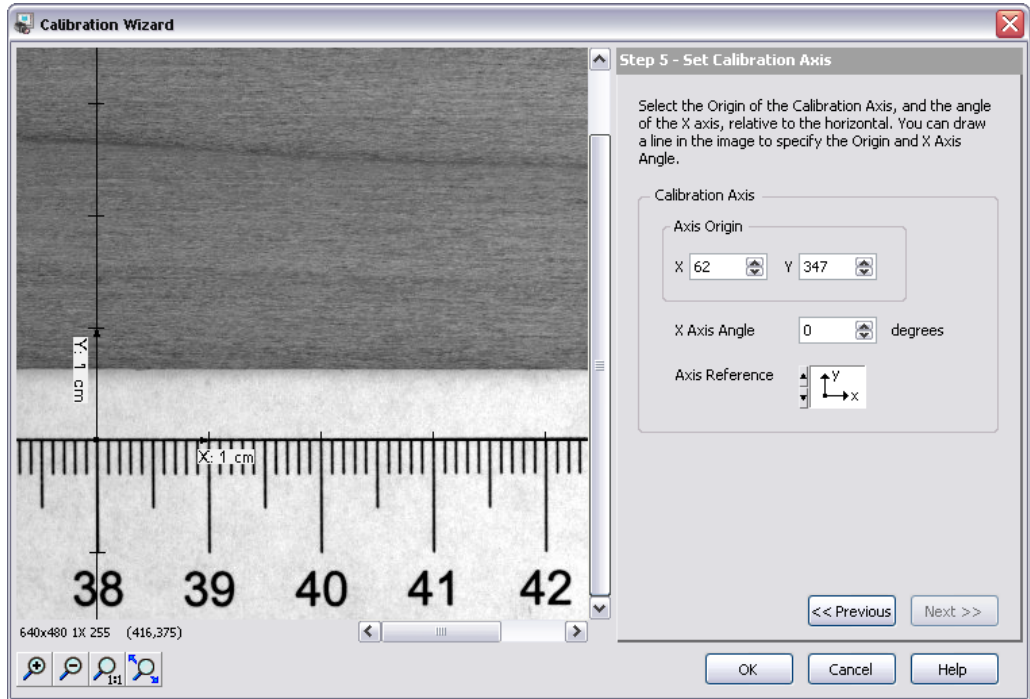

Figure 5-4. Defining the Origin and Angle of the Calibration Axis
19. In the **Set Calibration Axis** step, click the 38 cm marking to define it as the origin of the calibration axis. Draw a line horizontally and to the right along the edge of the ruler to define the angle of the calibration axis, as shown in Figure 5-4.